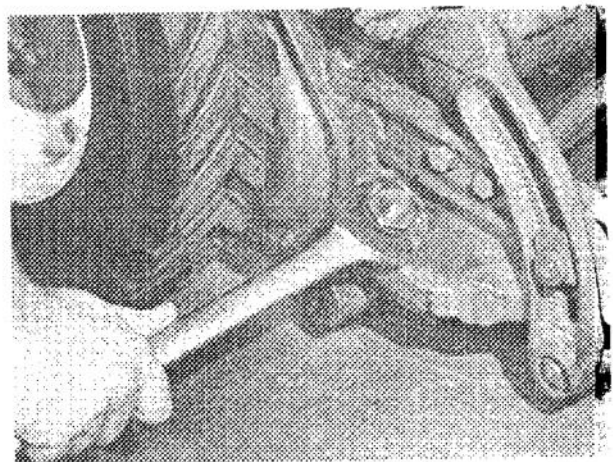

Figure 9
3. Continue to check for light contact across full length of the bedknife. Adjust rod end upward at end of bedknife that does not have light contact (Fig. 9).
4. When light contact is evident across full length of bedknife, tighten rod end jam nuts to 80 ft-lb (109 N·m) (Fig. 9). However, check for light contact again — steps 2 and 3 — because tightening jam nuts may affect the adjustment.